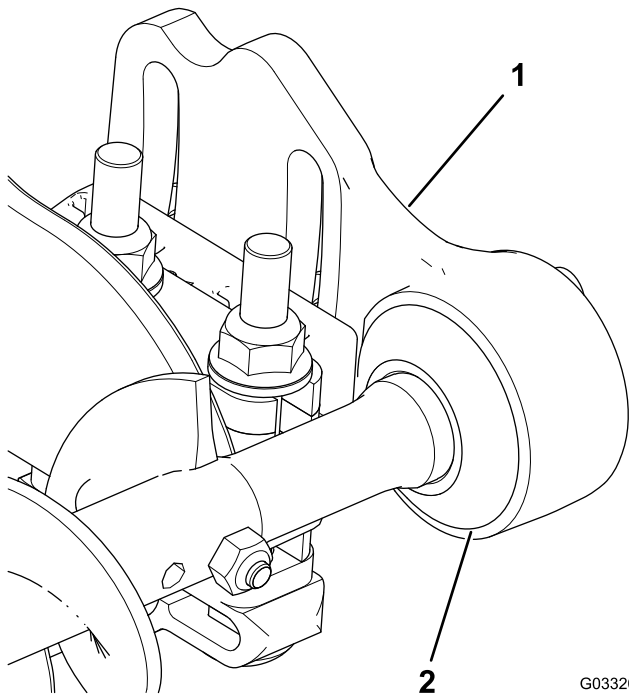

Figure 6
4. Slide each excluder seal outward until the lip seals are in light contact with each bearing housing (Figure 6).